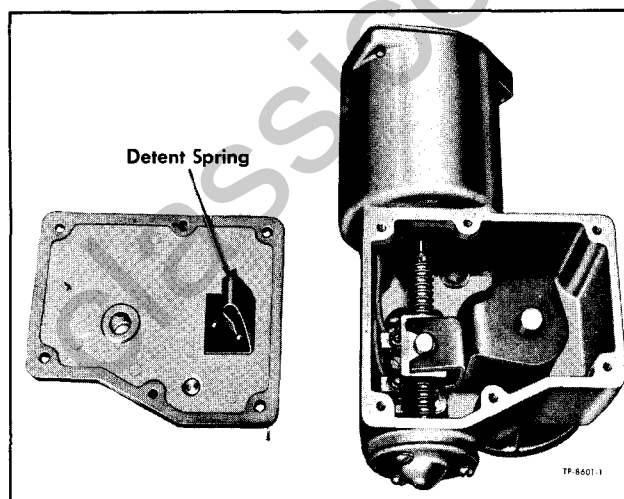

Figure 22—Position of Drive Nut When Disassembling
3. By turning drive screw, run nut from top or bottom to the center of the screw (fig. 22).